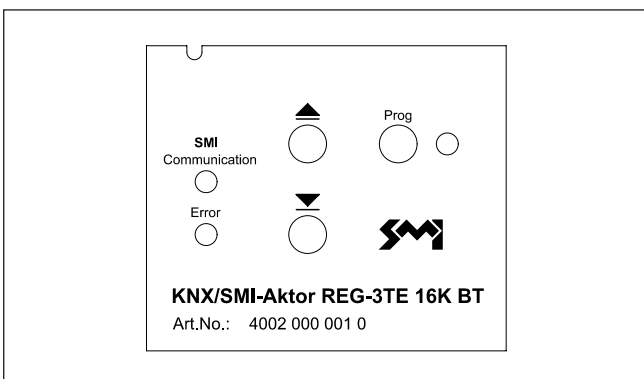

Fig. 3 Cover plate
After the installation has been completed and the operating voltages have been applied, the correct connection can be tested using the manual override operation keypad under the cover panel (broadcast push button up/down all drives) (Fig. 3). You will find a detailed description on the further commissioning in the software manual (article number 4002 630 011 0).
There is a Prog button for programming and a display LED both in the app and on the keypad (see Fig. 3).
- Press the programming button in the app or on the device (Fig. 3) to put the device into programming mode. The red LED lights up when programming mode is active. Programming is performed using the ETS on the PC. This software ends the programming mode automatically. The red LED goes out.